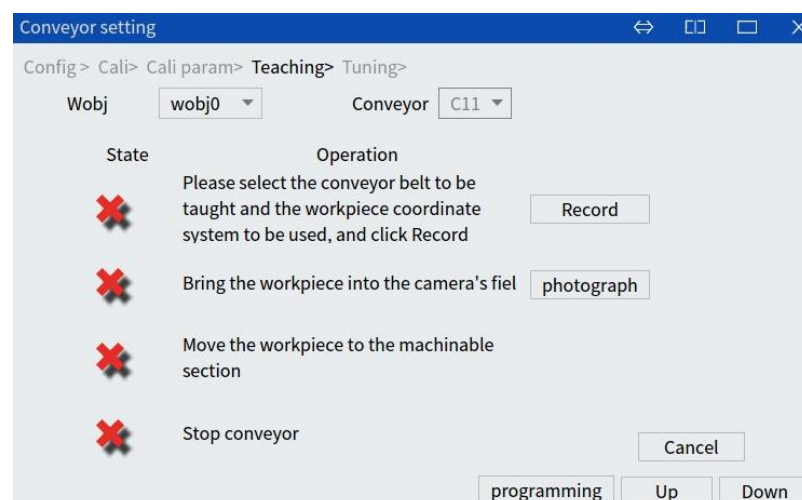

Figure 5-27 Conveyor belt teaching interface
Step16. Figure 5-27. The teaching steps are as follows: